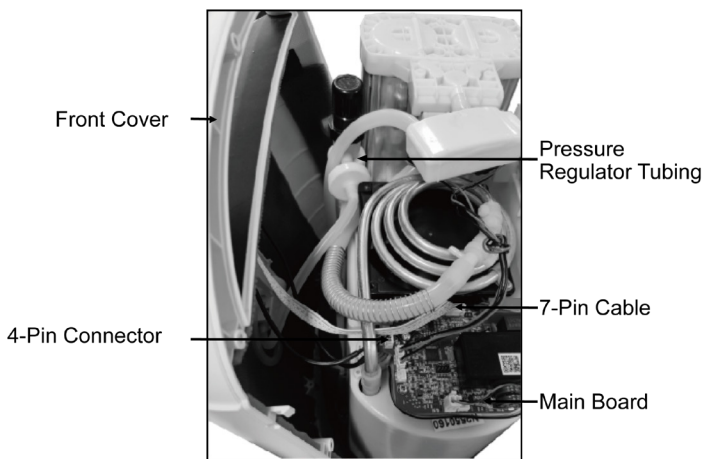

Figure 14
- Pull out Pressure Regulator Tubing from pressure regulator, disconnect 4-pin connector & 7-pin cable then remove the front cover. (Figure 14 & 15)